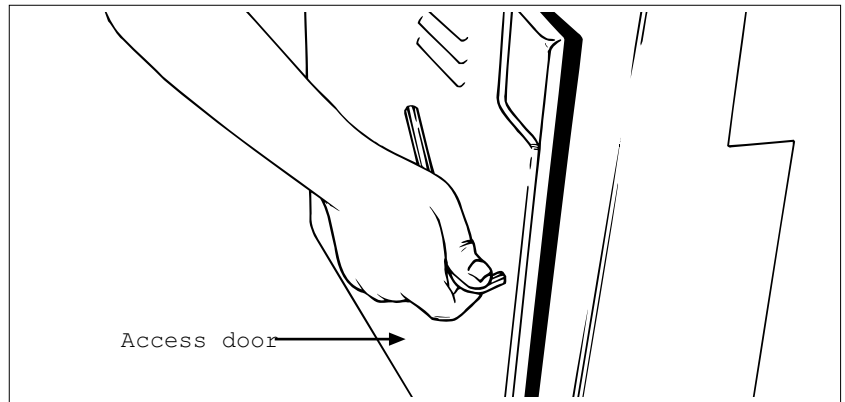

Figure 2-6. Gaining Access to Vacuum Base Start/Stop Circuit
2. At the vacuum base, open access door at end of the lower enclosure to locate start/stop control circuit (Figure 2-6).